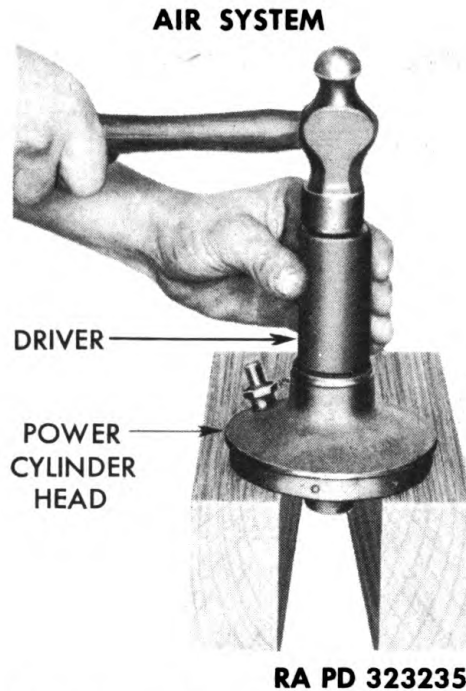

Figure 240 — Installing Outer Retainer Washer
(1) **ASSEMBLE POWER CYLINDER HEAD.** Insert inner retainer washer into recess at outer opening of shaft hole in head with prongs of washer facing out. Insert both felt washers and outer retainer washer with convex surface facing out. Use a driver with a slightly smaller diameter than retainer washer, and drive on washer until it becomes flat against felt washers (fig. 240). **CAUTION:** *Do not use a driver with a much smaller diameter than outer retainer washer.*